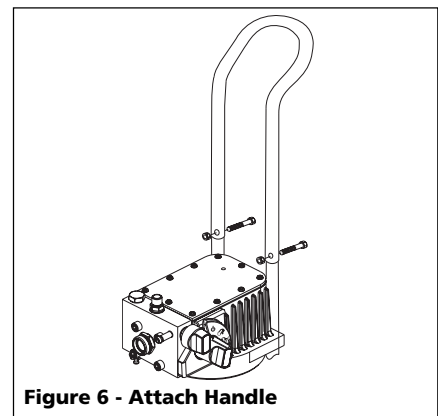

Figure 6 - Attach Handle
7. Stand behind the unit and reach over the handle to grip the ends at the bottom of the handle. Push down on the handle (See Figure 6).